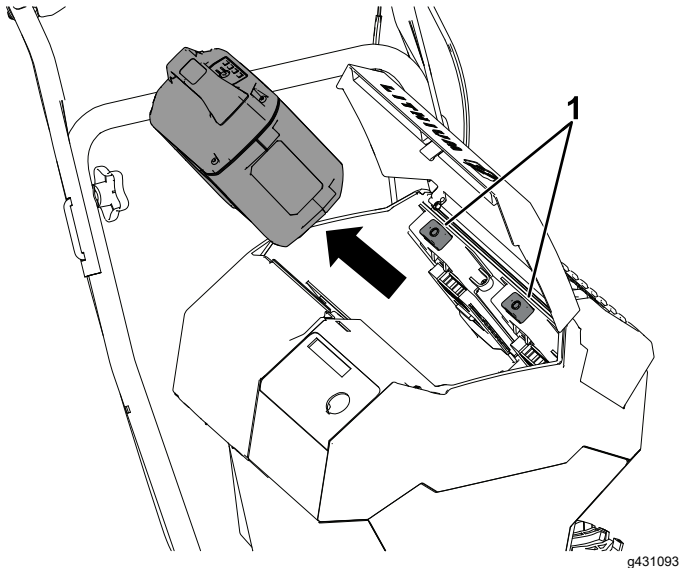

Figure 19
2. Press the battery pack-latch to release the battery pack and remove the battery pack (Figure 19).